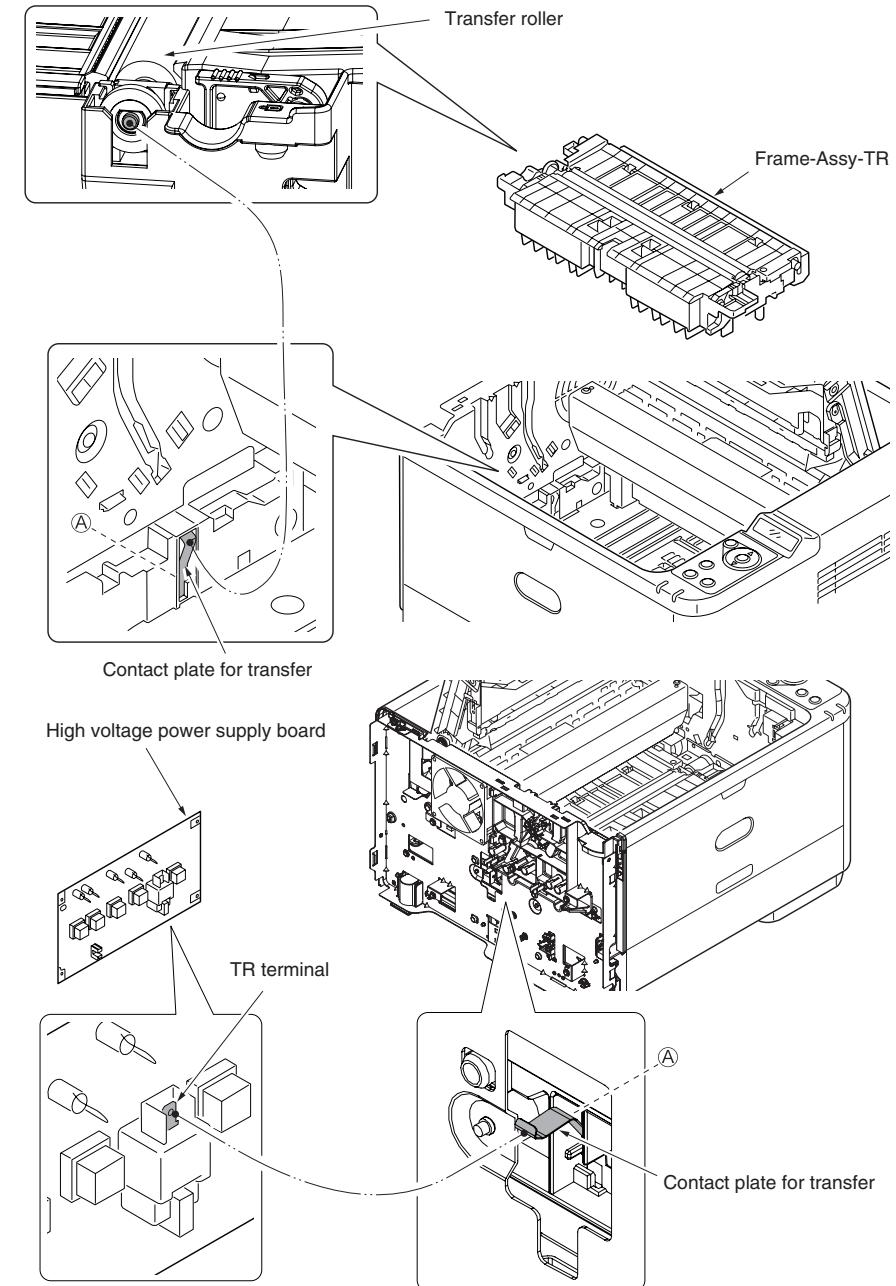
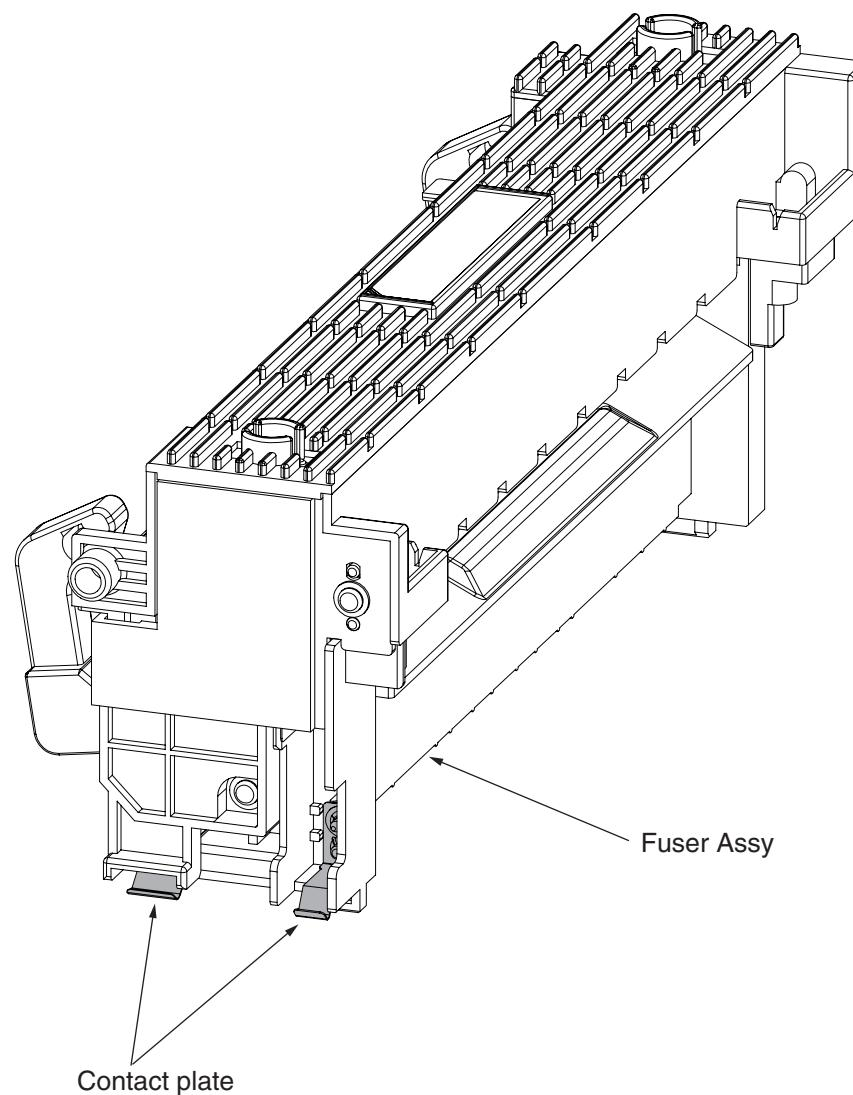

Figure 2-4
Figure 2-5
⑥ In case of error printing
- Does the contact plate of the transfer roller contact the TR terminal of the high-voltage power supply unit properly? (See Figure 2-4 , Section 6.2(6))
⑦ In case of inefficient fusing (If touch by hand the character or image that are printed on paper will be faded or unstuck.)
- ▼ Yes Does the contact plate of the fuser Assy contact the base plate properly? (See Figure 2-5.)
⑧ Vertical white belt/ White line
- ▼ No Does the contact plate of the transfer roller contact the TR terminal of the high-voltage power supply unit properly? (See Figure 2-4. , Section 6.2(6))